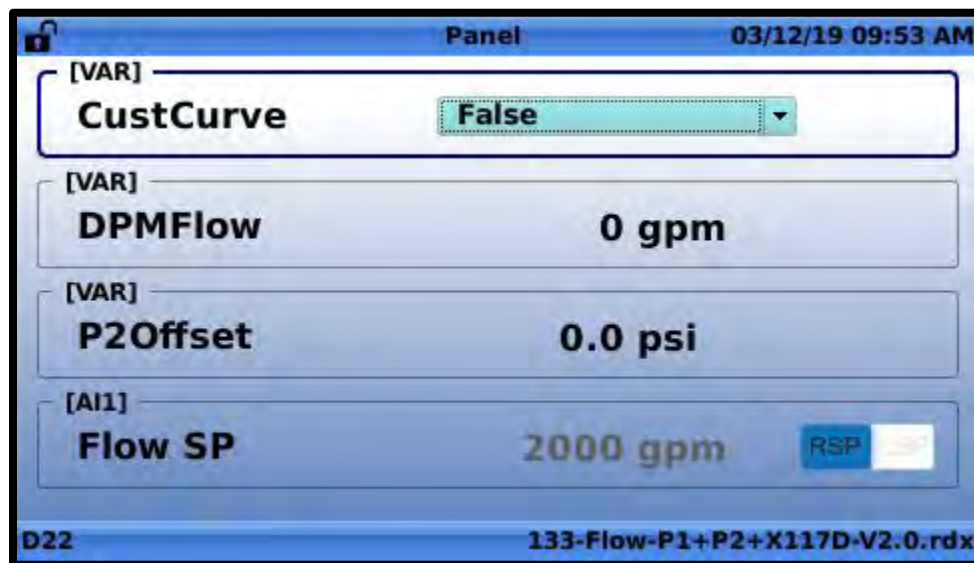

Figure 8.1
1. Starting from the home screen, press short down and wait for the interactive variable screen to be displayed as shown in **FIGURE 8.1**.